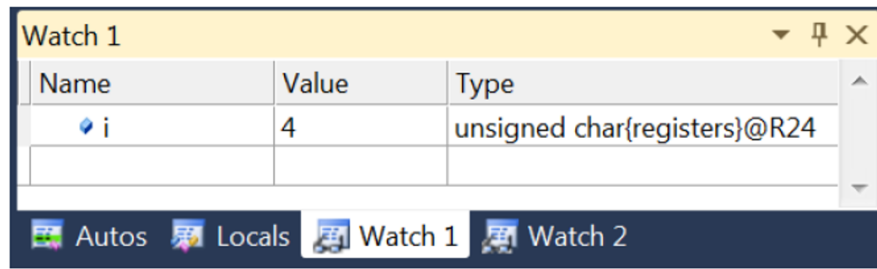

FIG 7. Watch window
- To monitor a C variable, select the variable name in the code window, click menu Debug — Quick Watch, and then click button Add Watch. The variable will be added to a watch window (Figure 7)